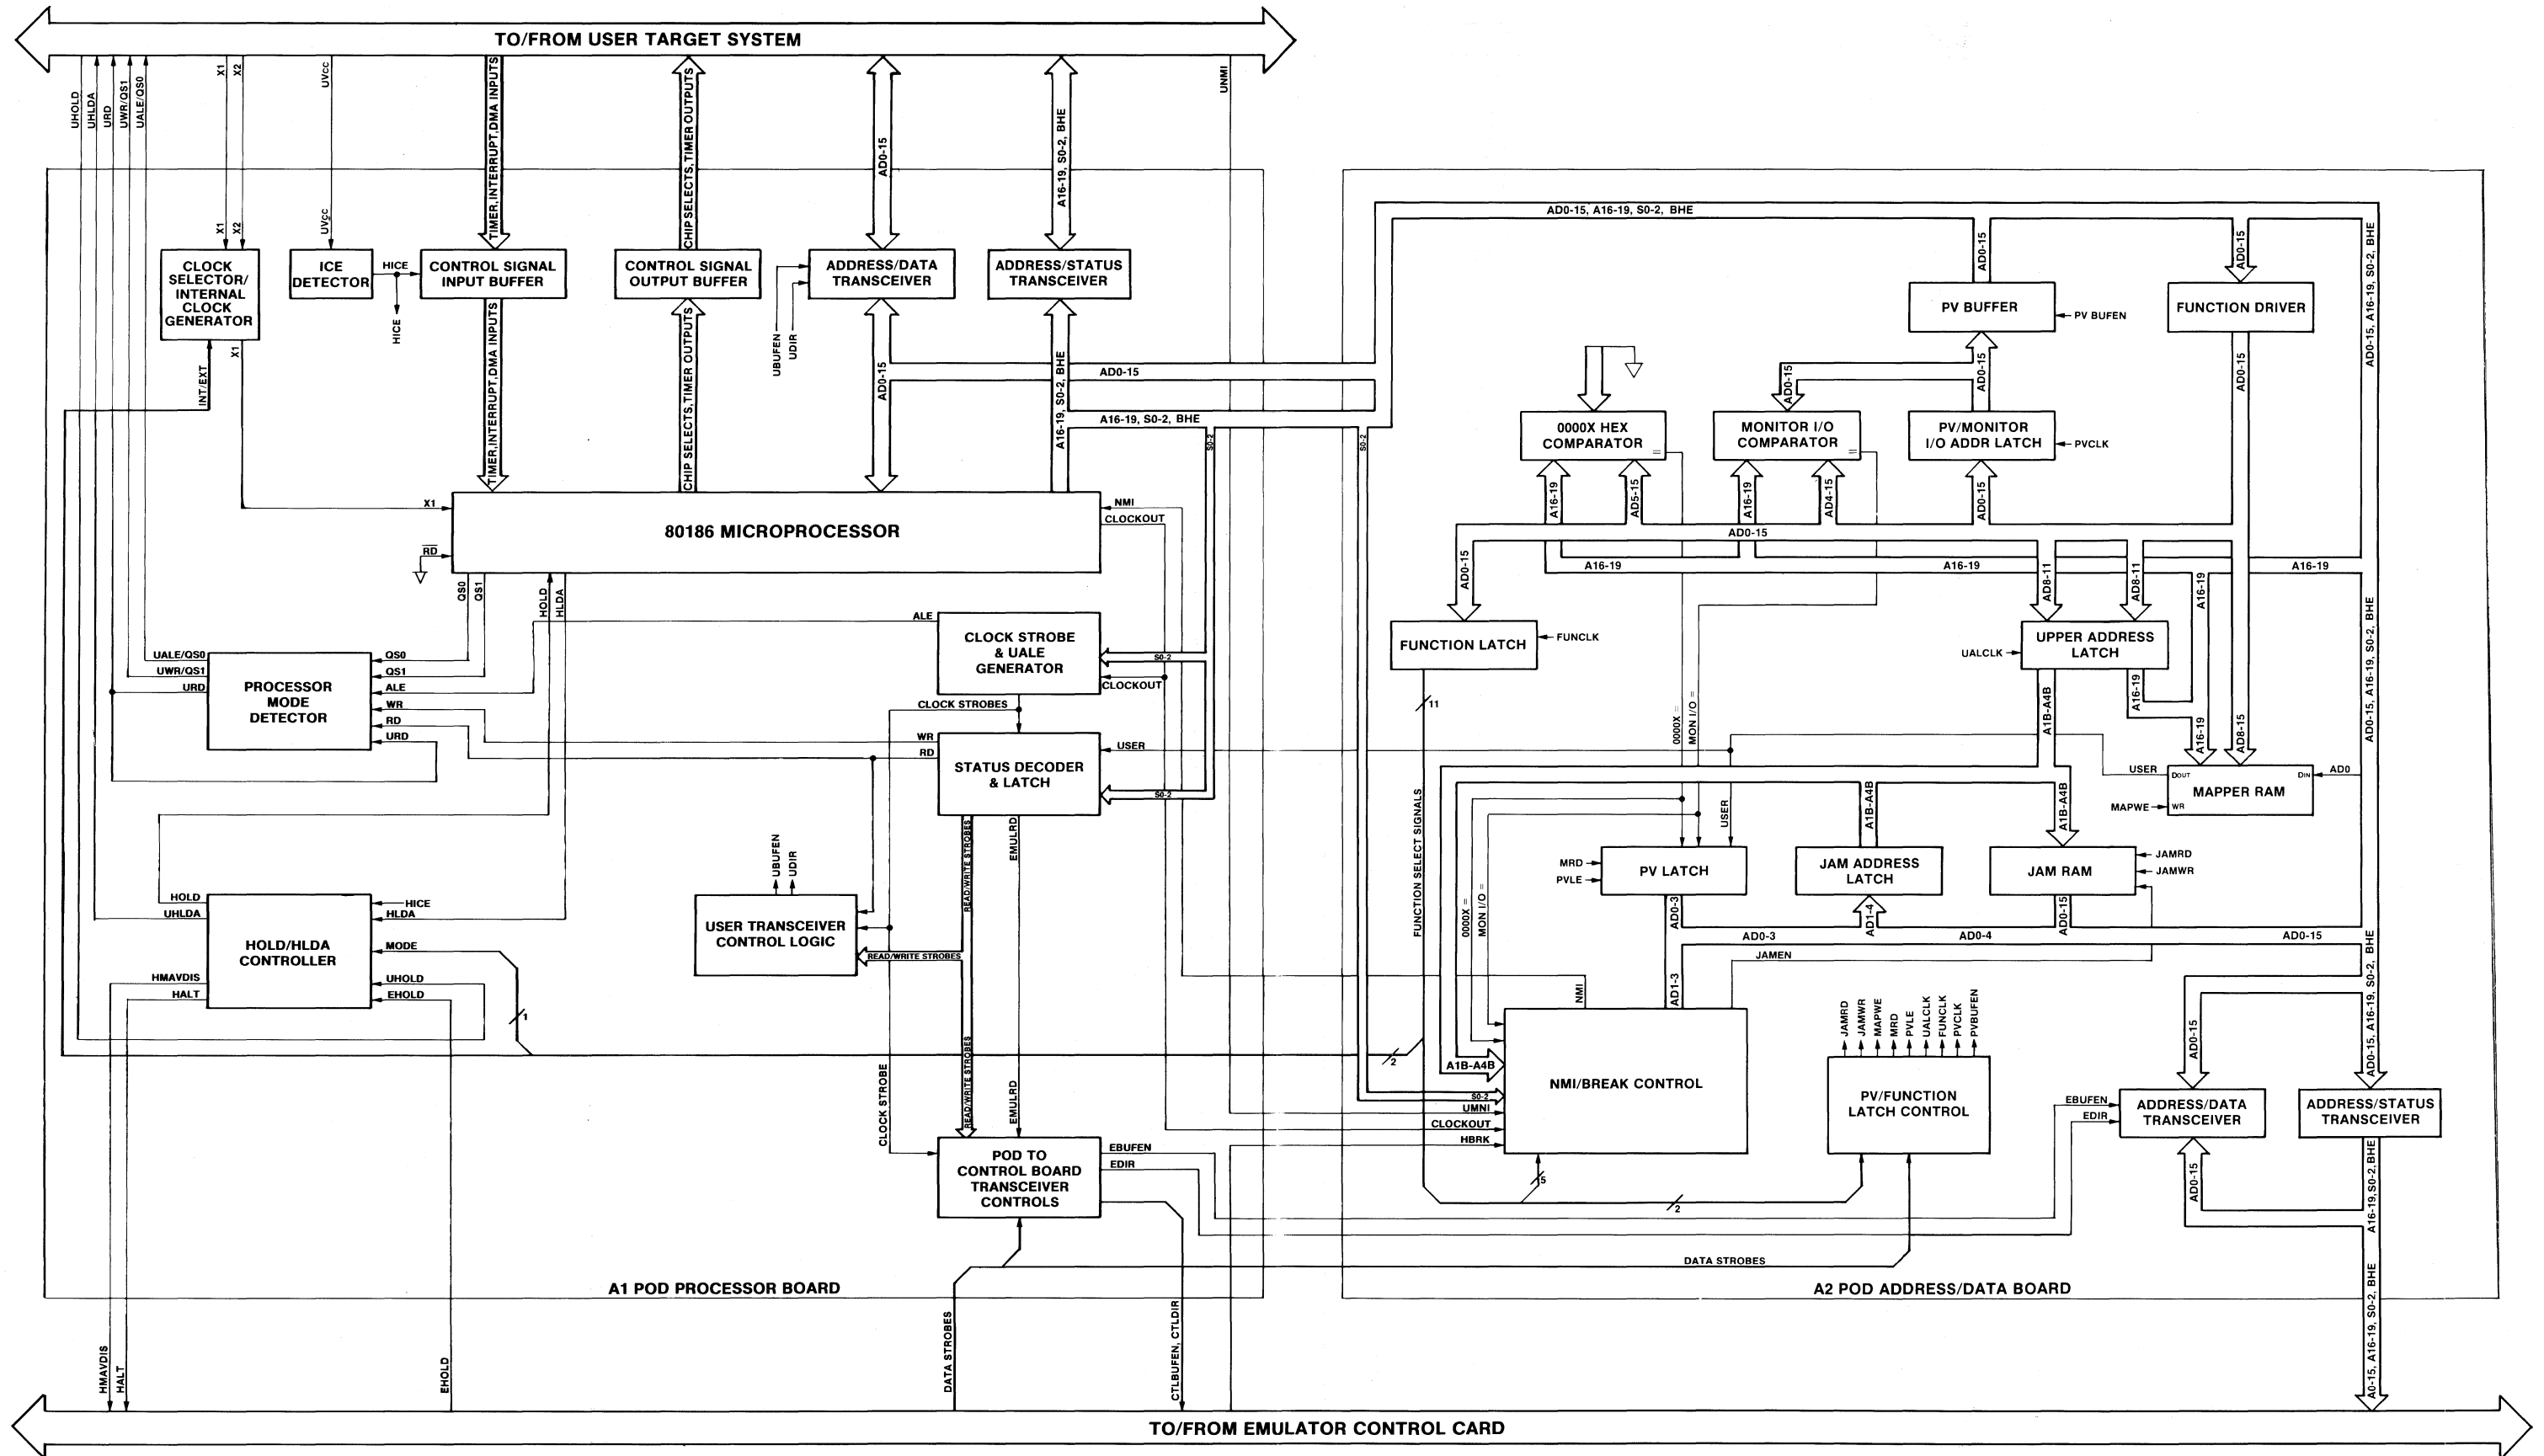

Figure 3-12.
**EMULATOR POD.** Figure 3-12 is a block diagram of the emulator pod. The emulator pod contains the 80186 microprocessor and circuits necessary to control the operation of that processor.